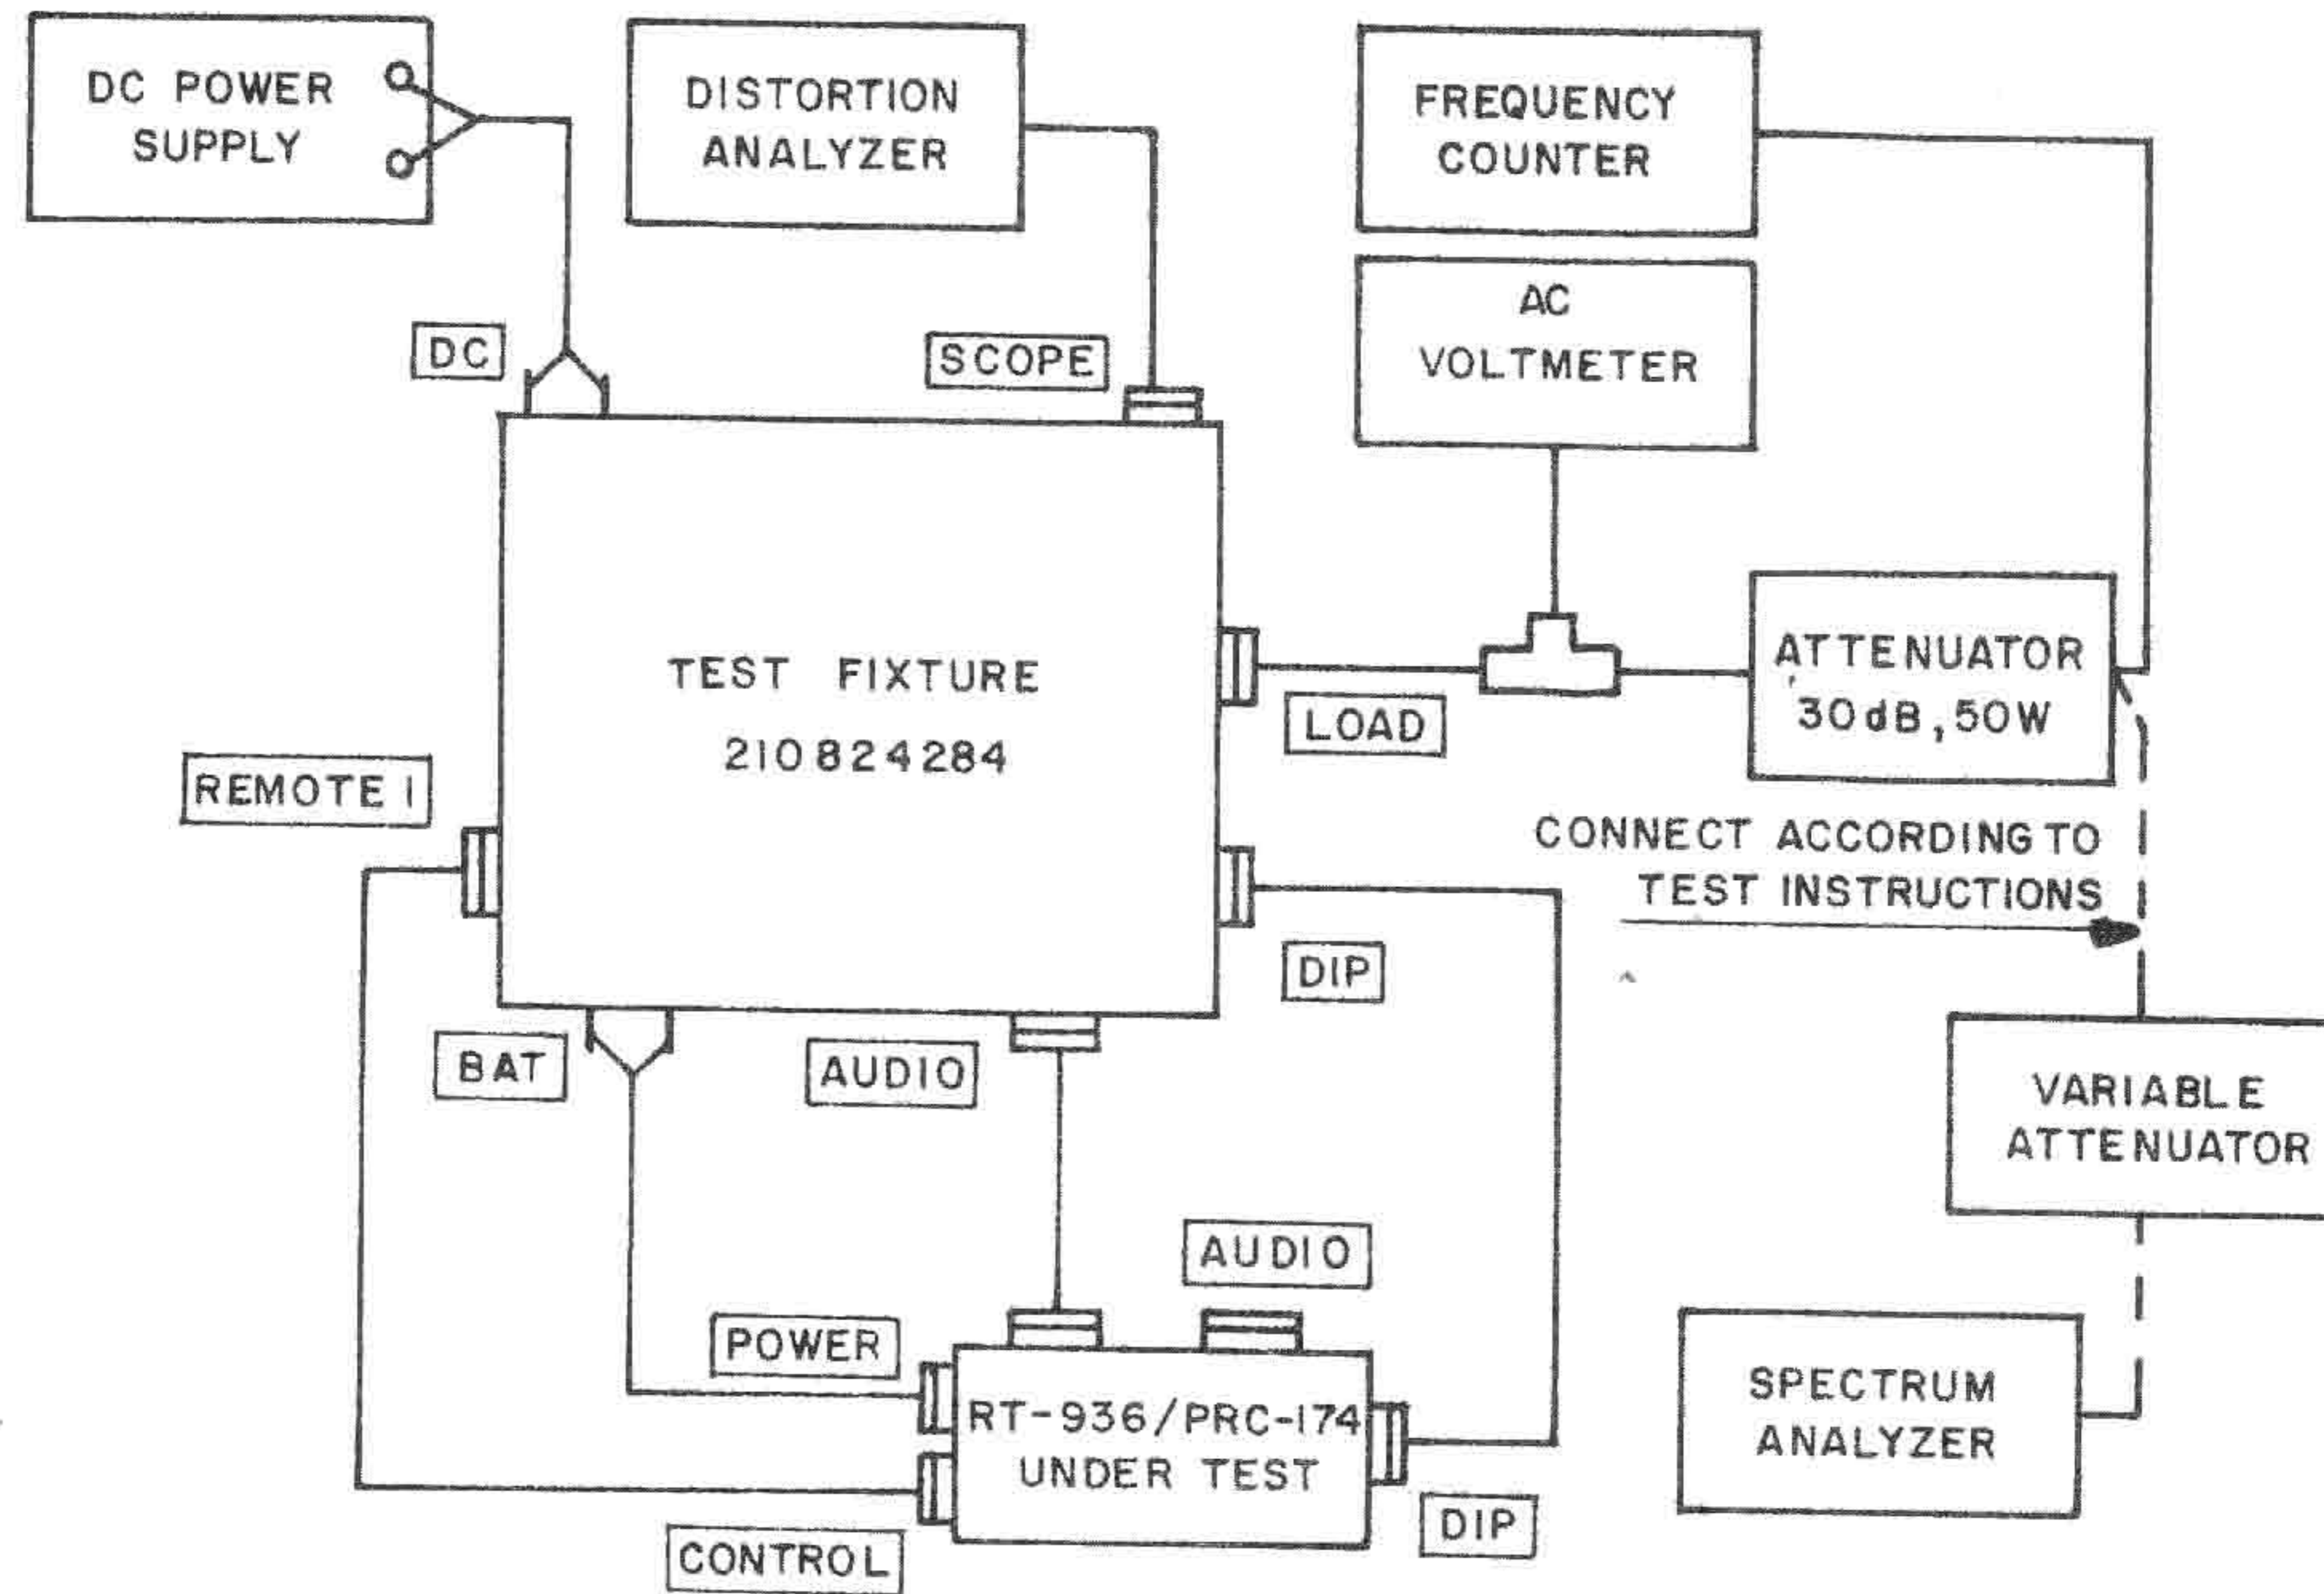

Fig. 4-4. Test Set-up for Transmitter Tests
4-3. Test and Alignment Procedures for Receiver/Transmitter RT-936/PRC-174 (fig. 4-4 through 4-10)
- (1) After repair of equipment.
- (2) Periodically, at intervals determined by the maintenance authority. The test procedures include alignment instructions, which permit to
b. Preparation for Test (fig. 4-4).
(1) Check that the function switch of the RT-936/PRC-174 and the ON/OFF switch of the test fixture are set to OFF.
(2) Remove the top and bottom covers of the RT-936/PRC-174 under-test; then lay the RT-936/PRC-174 on a clean, flat working surface covered by an insulating material.
(3) Assemble the test setup shown in fig. 4-4.
(4) Turn on the DC power supply and adjust its output voltage to 26V.
| 1 | Frequency Accuracy | ON/OFF : ON MODE : AM MN/BP : MN BAT : IND CAL/REM : REM R/T : R/T USB PA/CBP : PA FREQUENCY 2.000 WHIP/DIP : DIP ALC/1 kHz VAR : 1 kHz VAR PTT : R | (1) Use the test setup shown in fig. 4-4. (2) Set the PTT switch to T. Read the frequency indicated on the frequency counter, and calculate the frequency error. (3) Repeat the PTT switch to R. (4) Repeat steps (2), (3) above at each of the following frequencies: 2.4000 3.1111 3.9999 4.2222 5.3333 6.4444 7.5555 8.6666 9.7777 10.8888 11.9999 12.1111 13.2222 14.3222 16.4400 18.5500 19.6660 20.7000 | N/A Less than 2 Hz N/A Tolerance (Hz) 2.4 3.1 4.0 4.2 5.3 6.4 7.6 8.7 9.8 10.9 12.0 12.1 13.2 14.3 16.4 18.6 19.7 20.7 |
| 4 | Transmitter Sidetone | ON/OFF : ON MODE : SSB BAT : IND LOCAL/REM: REM R/T : R/T UBS PA/CBP : PA FREQUENCY: 16.0000 WHIP/DIP : DIP ALC/1 kHz VAR : 1 kHz VAR PTT : R MN/BP : MN AUDIO : 1 kHz 220mV/5mV: 5 mV SCOPE : PHONE | (1) Use the test setup shown in fig. 4-4. (2) Set the PTT switch to T. (3) Observe the RF signal indicated on the AC voltmeter. (4) Measure the sidetone level, using the distortion analyzer as a voltmeter. (5) Rotate the VOLUME control of the test fixture over its full range and observe the indication of the distortion analyzer. (6) Return the PTT switch to R. | N/A 1N/A 28 to 40 V 200 to 650 mV No change N/A |
| 5 | Transmitter Output Power Indication | ON/OFF : ON MODE : SSB BAT : IND LOCAL/REM: REM R/T : R/T USB PA/CBP : PA FREQUENCY: 16.0000 WHIP/DIP : WHIP ALC/1kHz VAR : 1 kHz VAR PTT : R MN/BP : MN AUDIO : 1kHzVAR ALC/AUDIO VAR: Fully counter-clockwise. | (1) Use the test setup shown in fig. 4-4. <p style="text-align: center;">CAUTION</p> At no stage of this test should the RF voltage indicated by the AC voltmeter be allowed to exceed 40V. (2) Set the PTT switch to T. (3) Slowly turn the ALC/1kHz VAR control clockwise and record the RF voltage (indicated on the AC voltmeter) at which each lamp of the solid state meter turns on. L1 designates the leftmost lamp; L5 designates the rightmost lamp. | N/A | | | | | | | | |